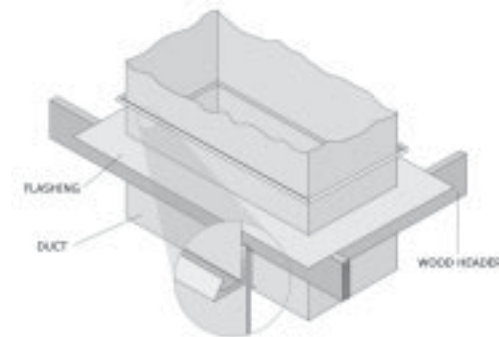

Figure 58: Flashing for roof penetrations.
**Add flashing as required by approved contract documents or as directed in manufacturer's instructions. See Figure 58 (below).**